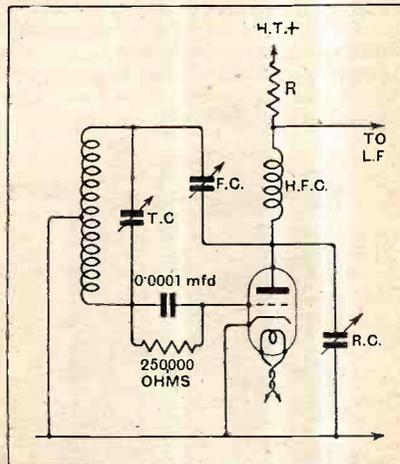
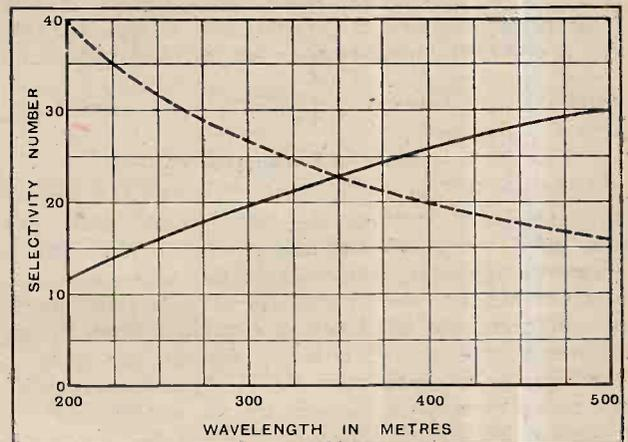

Fig. 2.—A new application of an old principle: the throttle-controlled Hartley circuit works well with a power grid detector.
Fig. 3.—Variation of selectivity with wavelength to which the circuit is tuned. The conditions are the same as for Fig. 2.
Connections for a Hartley-cum-power grid detector combination are given in Fig. 2; the aerial connection, which may be conventional, is omitted, because, as already stated, there is no reason why a preceding H.F. amplifier (for which a tuned-grid choke-feed coupling is suggested) should not be used. As a rule, the feed capacity, F.C., which may be in the form of a neutralising condenser, should be mounted
Referring still to Fig. 2, it will be realised that R is the feed resistance used in conjunction with a parallel-feed system of L.F. transformer coupling, which is particularly suitable for sets with power-grid detection, and which was included in the Power Pentode Two, described in *The Wireless World* for May 7th and 14th. For the general considerations involved in the design of a receiver of this class, the reader is referred to these articles.
Fig. 3.—There should always be a conductive path between anode and filament and grid and filament in any valve circuit, although in the case of a grid detector (diagram B) the circuit resistance will be high.
forward, and the operation of making a test for their continuity is generally obscured by the fact that in most of them a source of voltage—either a battery or eliminator—is included. Taking the example given in Fig. 3 (A), we see that the grid cathode circuit is completed through a bias cell, while an H.T. battery is similarly interposed between anode and cathode. The matter is further complicated by the fact that the D.C. resistance—and it is mainly with D.C. resistance that we are concerned when making these tests—of the working load in the circuit varies widely from valve to valve, ranging from, perhaps, something less than an ohm in the case of a short-wave grid inductance coil, to hundreds of thousands of ohms in series with the anode of an L.F. magnifying valve, and even to leak resistances in the order of megohms in detector-grid circuits.
The selectivity numbers are given by the full line curves of Fig. 2 and Fig. 3, plotted against frequency and wavelengths respectively, and these show clearly the falling off in selectivity at the higher frequencies and lower wavelengths in spite of the increased value of
$\frac{L}{C}$ . The broken-line curves in Figs. 2 and 3 are drawn to show how the selectivity would vary if the H.F. resistance remained constant at 10 ohms for all frequencies and wavelengths through which the circuit is tuned. These curves show that, but for the increase
Fig. 2.—Variation of selectivity with frequency to which the circuit is tuned. The full line curve gives the actual selectivity taking into account the variation of H.F. resistance. The broken-line curve represents the imaginary selectivity obtained by assuming the circuit resistance to remain constant at 10 ohms.